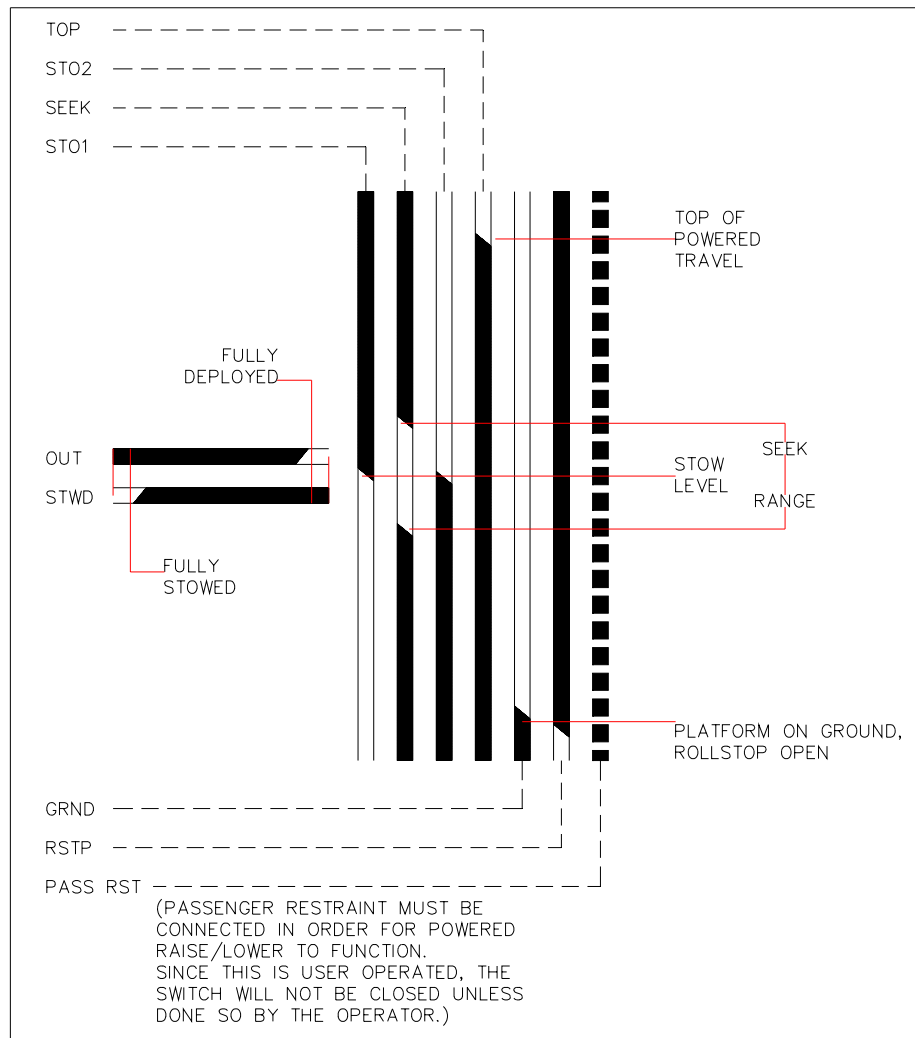

FIGURE 3-3: LIMIT SWITCH ACTUATION DIAGRAM
Refer to **Figure 3-3**. The limit switch actuation diagram shows the state of all limit switches as the platform travels from ground level, to stow level, and to vehicle floor level. The solid (O) line indicates the normally CLOSED portion of the switch is operational, while the two thin lines (=) indicates the normally OPEN portion of the switch is operational. The dotted lines (O O O) are used to show the switch states beyond the normal travel boundaries of the platform. This is useful in showing the operation of the TOP switches which change states at vehicle floor level. For proper operation of the lift, the SEEK, STO1, and STO2 switch actuations must overlap as shown.